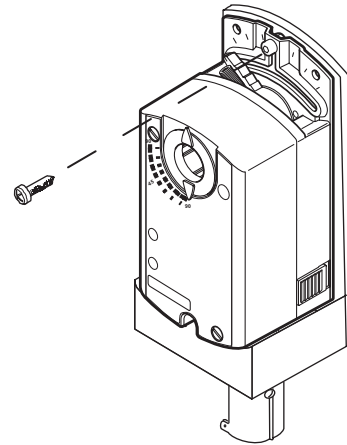

Figure 6 Fastening the Actuator to the Adapter.
5. Fasten the actuator to the adapter with the screw provided, refer to Figure 6.